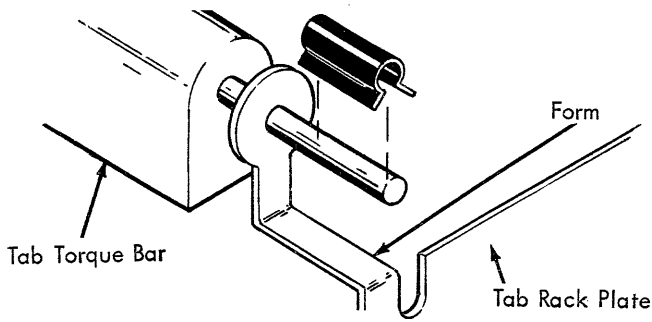

FIGURE 99. Tab Rack Plate
- b. With the carrier to the right, form the extension on the tab rack plate so that .001" to .002" exists between the raised area of the escapement bracket and the tab torque bar. This is the extension which supports the tab torque bar on the right side (Fig. 99). Note: This part is case hardened on early machines. Use caution when forming. Adjustment "a" should be rechecked if this extension is formed.